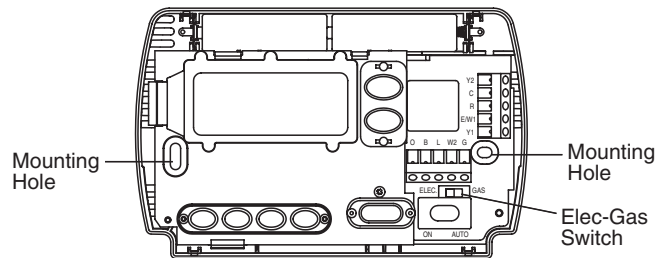

Figure 1 – Thermostat base
This thermostat is configured from the factory to operate a heat/cool, fossil fuel (gas, oil, etc.), forced air system. It is configured correctly for any system that DOES NOT require the thermostat to energize the fan on a call for heat. If your system is an electric heat or heat-pump system that REQUIRES the thermostat to turn on the fan on a call for heat, locate the ELEC/GAS switch on the back of the thermostat (see fig. 1) and switch it to the **ELEC** position. This will allow the thermostat to energize the fan immediately on a call for heat. If you are unsure if the heating/cooling system requires the thermostat to control the fan, contact a qualified heating and air conditioning service person.
5. Fasten base loosely to wall, as shown in fig. 1, using two mounting screws. Place a level against bottom of base, adjust until level, and then tighten screws. (Leveling is for appearance only and will not affect thermostat operation.) If you are using existing mounting holes, or if holes drilled are too large and do not allow you to tighten base snugly, use plastic screw anchors to secure subbase.
If "**BATT**" is displayed, the batteries are low and should be replaced. For best results, replace all batteries with new premium brand alkaline batteries such as Duracell® or Energizer®. To replace batteries, press system button to **OFF**, install the batteries along the top of the base (see Fig. 1). The batteries must be installed with the positive (+) end to the left.